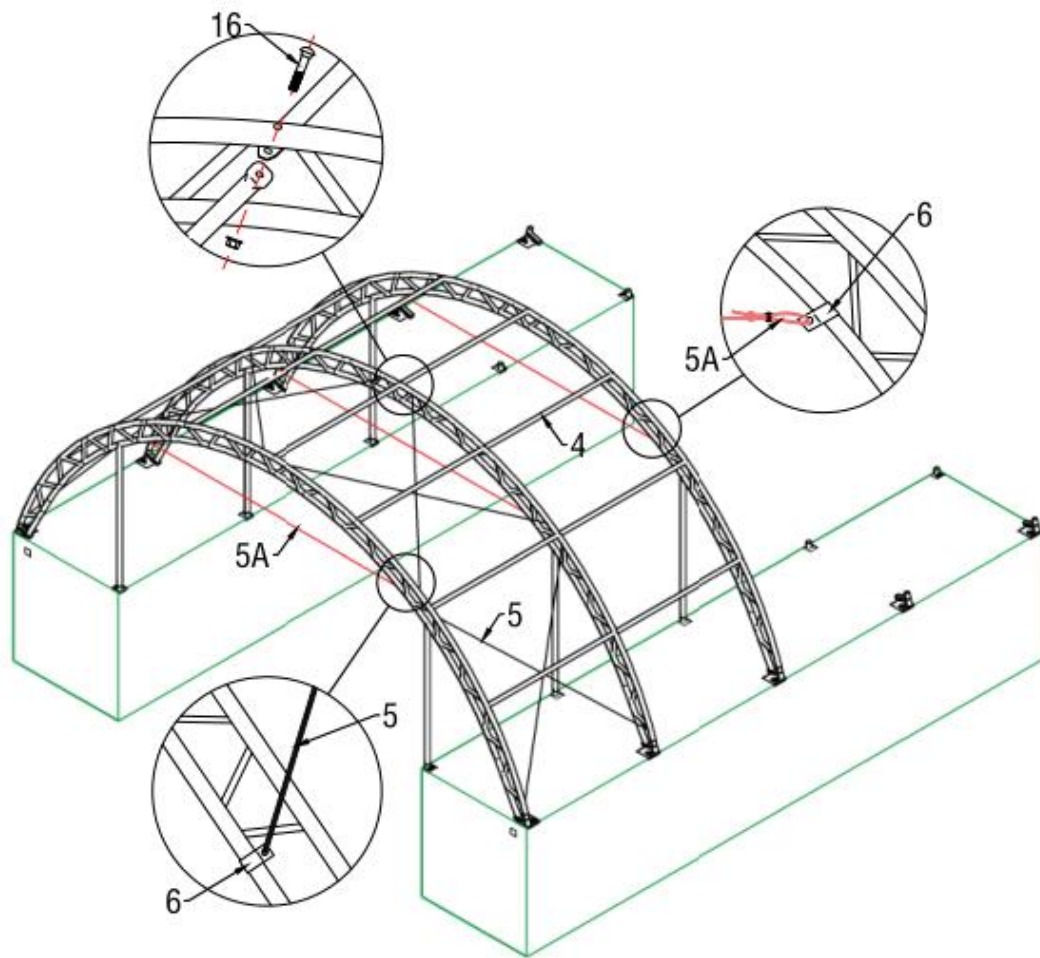

Figure 5
5. Connect Purlin (No.4) to arch by using Carriage bolt M10x90mm(No.16) by turns, then connect the Crossing Steel wire(No.5) by using Clip(No.6) to the arch frame(see Figure 5).